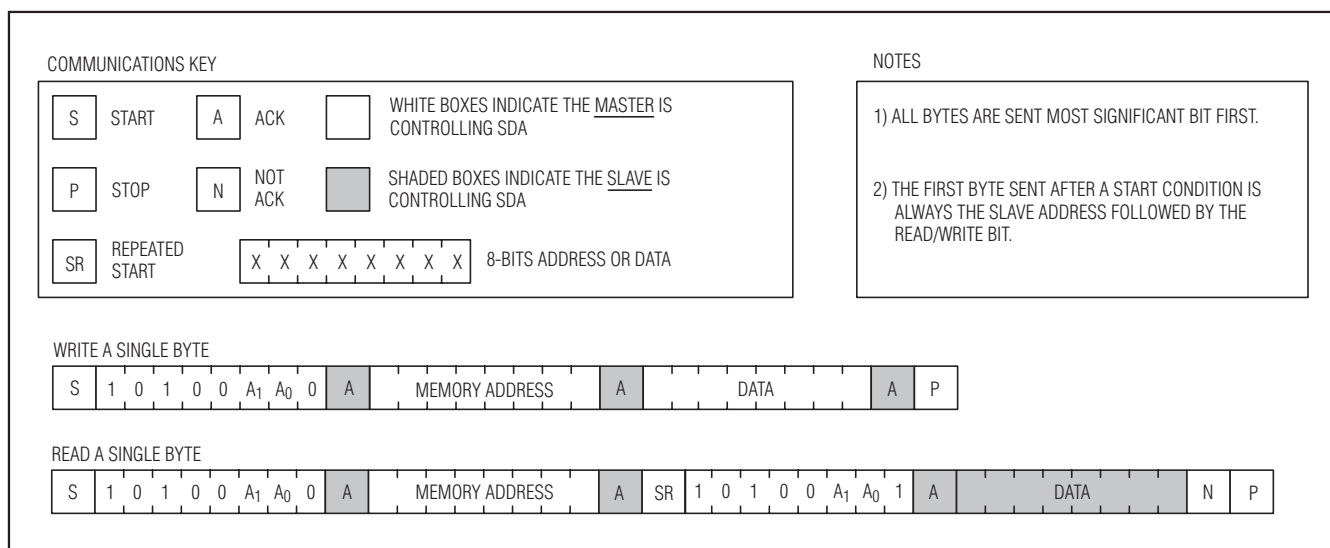

Figure 11. I2C Communications Examples
**Writing a Data Byte to a Slave:** The master must generate a start condition, write the slave address byte ( $\overline{R/\overline{W}}$  = 0), write the memory address, write the byte of data, and generate a stop condition. Remember the master must read the slave's acknowledgement during all byte write operations. See Figure 11 for more detail.
**Reading a Data Byte from a Slave:** To read a single byte from the slave the master generates a start condition, writes the slave address byte with  $\overline{R/\overline{W}}$  = 0, writes the memory address, generates a repeated start condition, writes the slave address with  $\overline{R/\overline{W}}$  = 1, reads the data byte with a NACK to indicate the end of the transfer, and generates a stop condition. See Figure 11 for more detail.